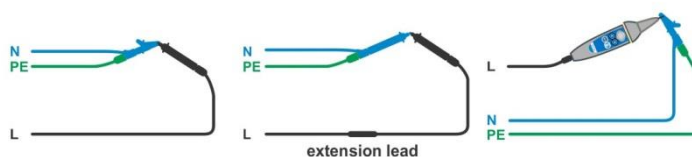

Figure 7.25: Shorted test leads
- › Connect test cable to the instrument and short the test leads together, see **Figure 7.25**.